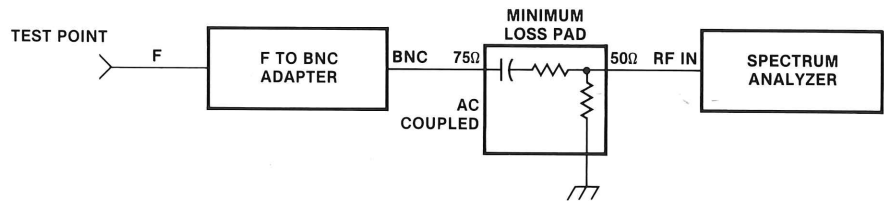

Figure 2-1. Equipment connection for intermodulation measurements.
1. Set up the equipment as illustrated in figure 2-1.